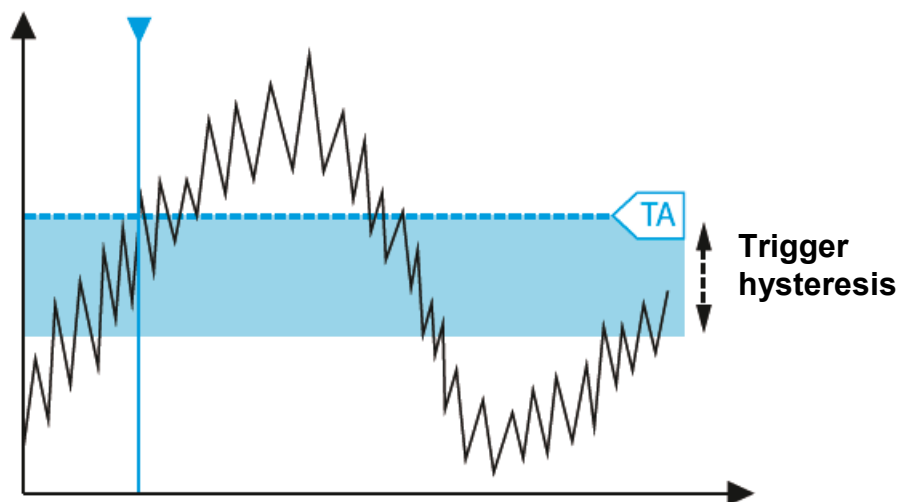

Figure 9: The hysteresis of the trigger level enables stable triggering on noisy signals
There are two contradicting requirements for the trigger sensitivity. For stable triggering on noisy signals a trigger system requires a certain hysteresis around the trigger threshold (see Figure 9). A wide hysteresis on the other hand limits the sensitivity of the trigger system for small amplitude signals.
- The hysteresis can be manually increased in the "Manual" hysteresis mode to enable stable triggering on signals with high noise level (Figure 9).